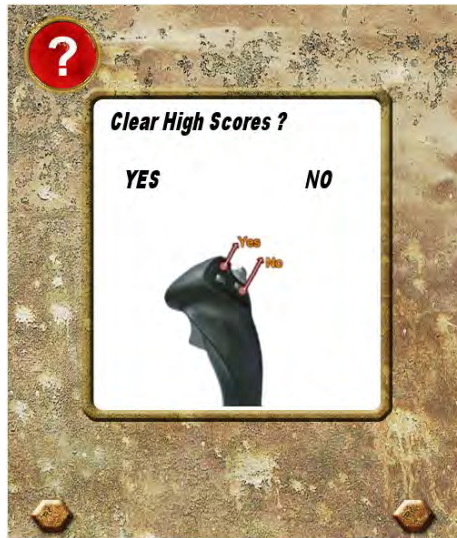

Fig. 4-12 “Clear High Scores” Window
11. “*Clear High Scores*” will erase all high scores and replace with the default settings.(Fig. 4-12)